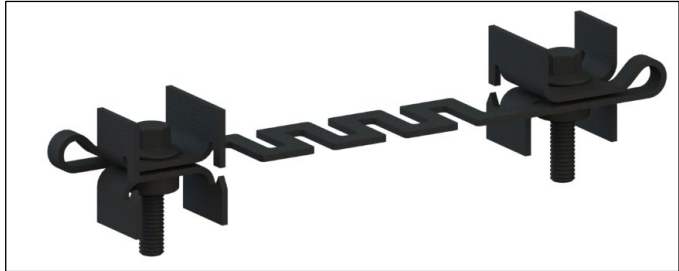
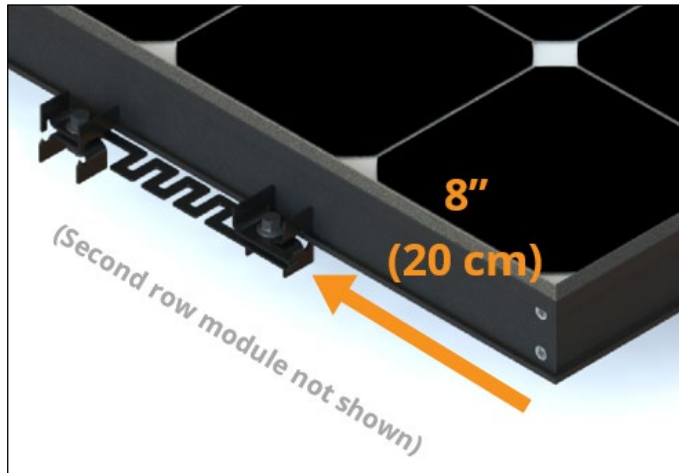
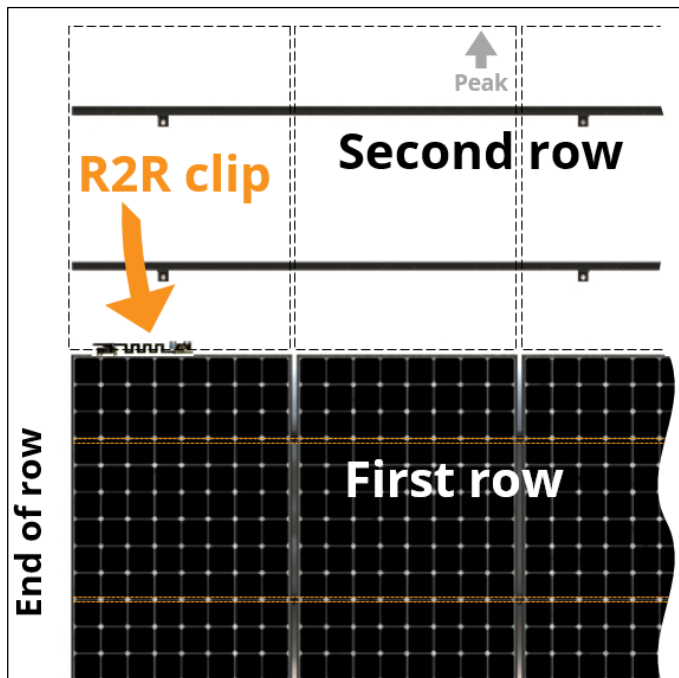

Fig. 31
Fig. 32
Fig. 33
1. The R2R clip has two threaded bosses with bolts (Fig. 31). Fit the R2R clip (with bolt heads up) between one row-end module in the first row and the adjacent module in the second row; 8" (20 cm) from the end of the row (Fig. 32 and Fig. 33).